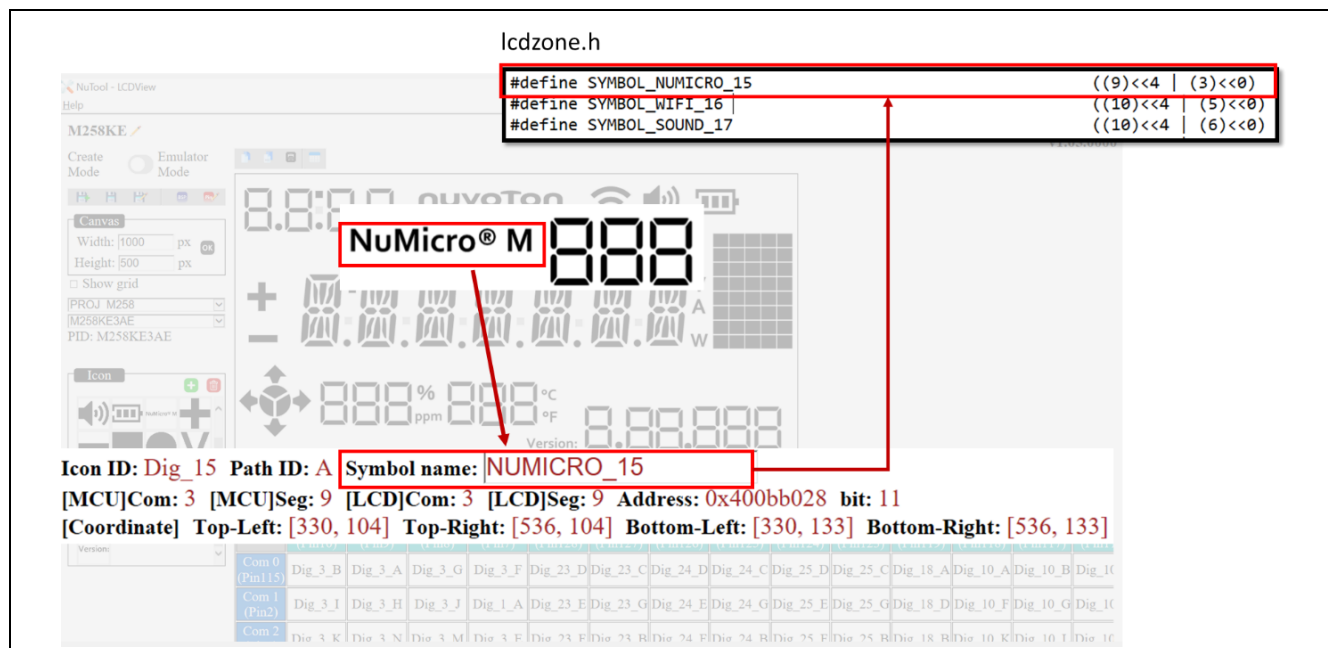

Figure 1-12 Definition in lcdzone.h Corresponding with the Name Specified in LCDView
2. Confirm the name of icons defined in LCDView to find the corresponding definition in lcdzone.h, as shown in Figure 1-12.